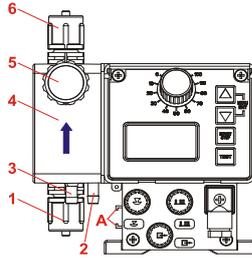

Fig. 5.1 EMP II E60 (front view)
D) For easy venting of the metering pump, the vent connection (see chapter 5, Fig. 5.1, Pos. 3) should be fed back into the metering medium container via a separate pipe.